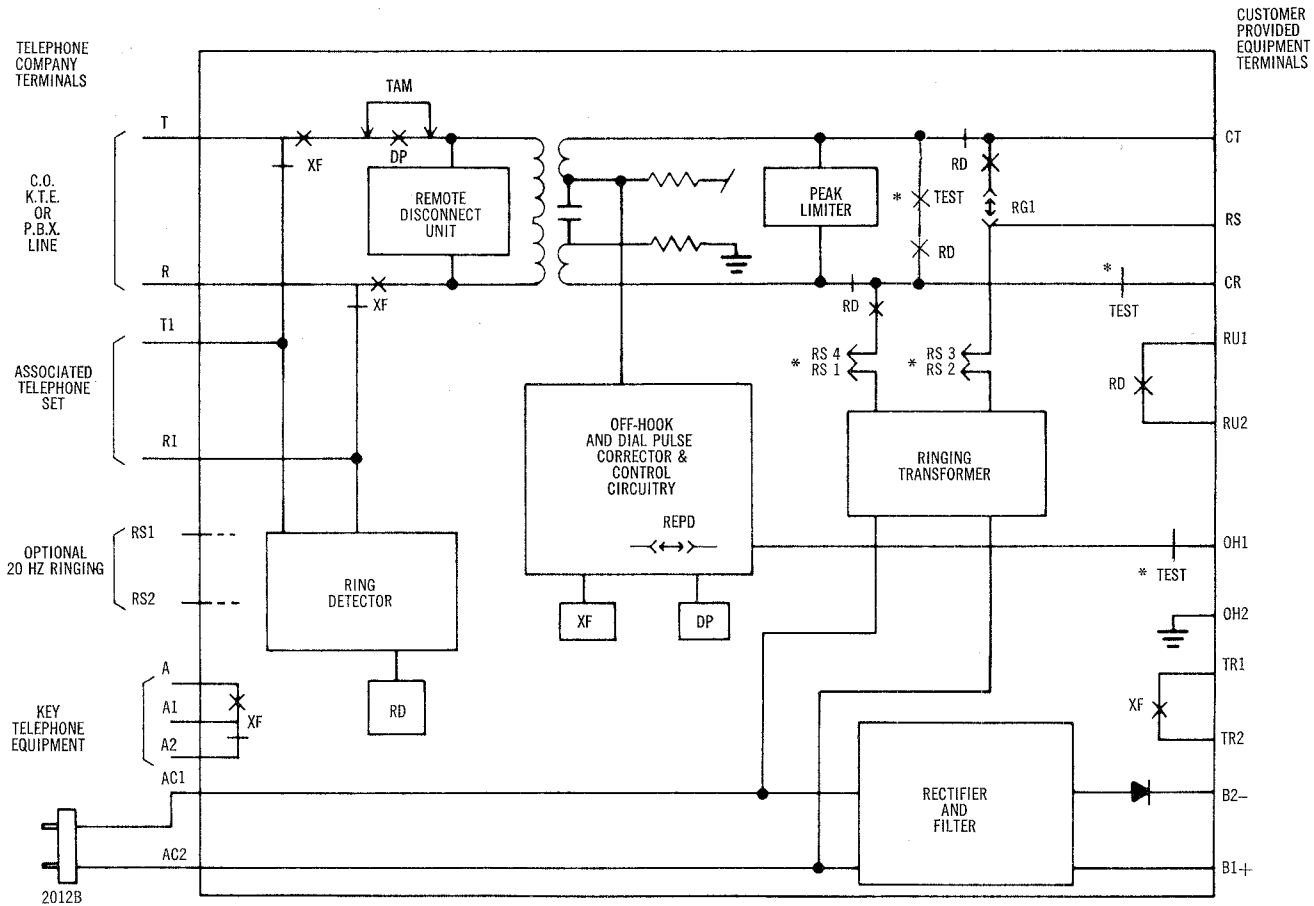

Fig. 3 — Functional Schematic of Voice Station Coupler
**2.12** The terminal block for the connection of the telephone company equipment is located at the left side of the printed circuit board. The functional schematic is shown in Fig. 3 (Table B).
**2.14 Answering an Incoming Call:** The ring detector is activated (Fig. 3) when 20 Hz ringing is present on the line indicating an incoming call. The RD relay, part of the ring detector operates and releases in response to the ringing cycle (i.e., 2 seconds operated — 4 seconds released): The operation of relay RD causes a contact closure between terminals RU1 and RU2. It also causes 20 Hz or 60 Hz ringing voltage from the ringing transformer to be applied between terminals CR and CT or between terminals CR and RS, depending on whether or not the RGI strap is in place (Option G).